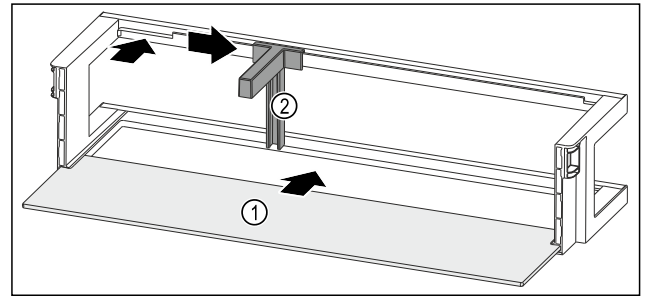

Fig. 226 Door rack with shelf
- ▶ Push the shelf Fig. 226 (1) into the side recesses.
- ▶ Insert the bottle holder Fig. 226 (2) in the recess.
- ▶ Push the bottle holder Fig. 226 (2) to the desired position to the side.